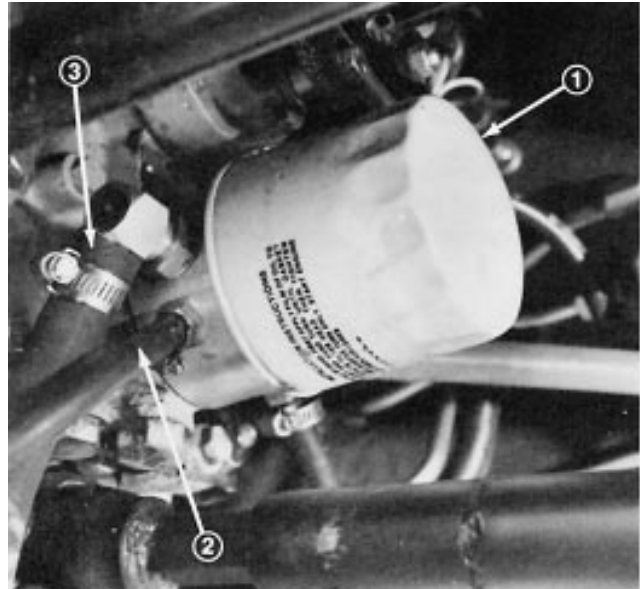

Figure 35
3. Clean the area around the hydraulic oil filter and remove the filter (Fig. 35).